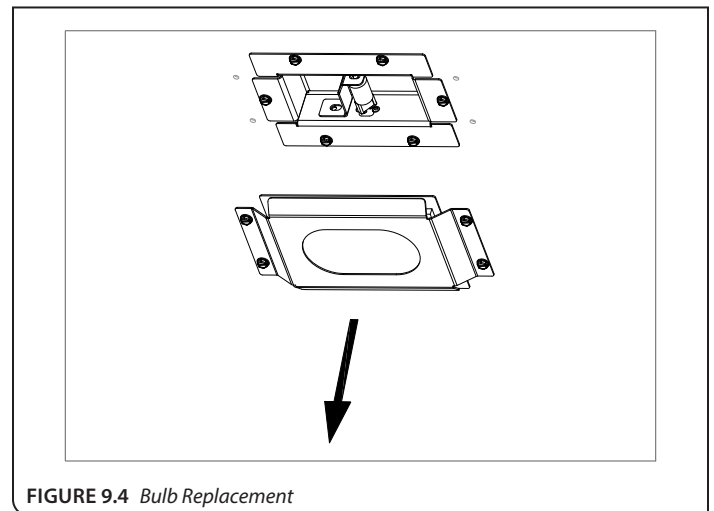

FIGURE 9.4 Bulb Replacement
2. Remove the light kit cover and roped glass, (4) screws. See FIGURE 9.4. Save screws.
3. Remove (2) halogen bulbs.
4. Using a soft cloth or gloves, install (2) halogen bulbs into lamp bases.
5. Reinstall light kit cover and roped glass with (4) screws previously removed.